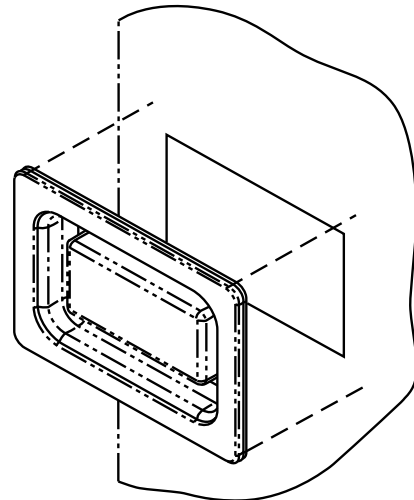

Fig. 9 – Installation of Window Bezel for Circuit Breaker Model Heater
- Circuit breaker models require installing a window bezel in unit door to provide safe access to circuit breakers. The window bezel mounts on the outside of the blower door (Fig. 9).
- Remove adhesive backing from window bezel and from the outside. Insert the window through the rectangular hole and seat firmly on the door surface. Press firmly in place to seat the adhesive (Fig. 9).